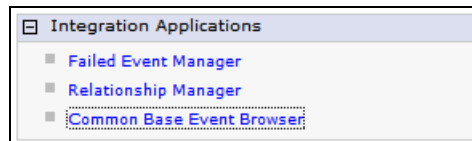

Figure 13-3 Common Base Event Browser: Start
- ▶ Select *Integration Applications* → *Common Base Event Browser* (Figure 13-3).